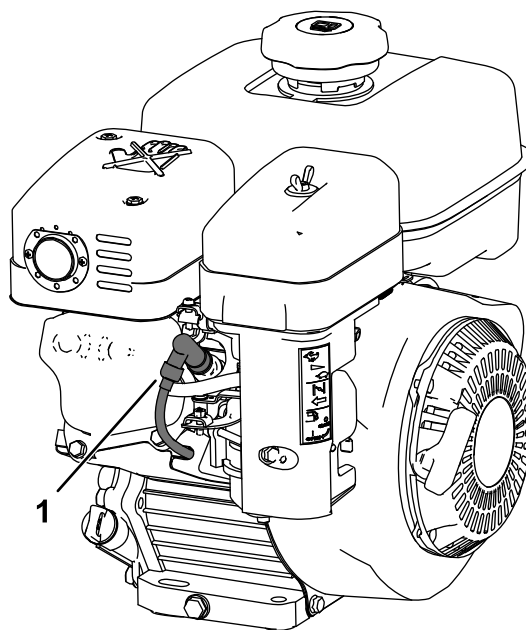

Figure 10
5. Disconnect the spark-plug wire (Figure 10).